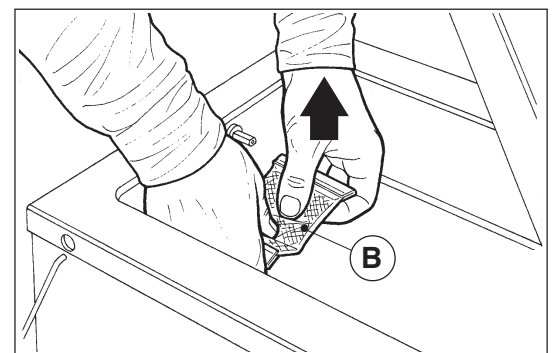

Fig. 3
- 4) Hold the sealbag and pull it upwards (B - Fig. 3).